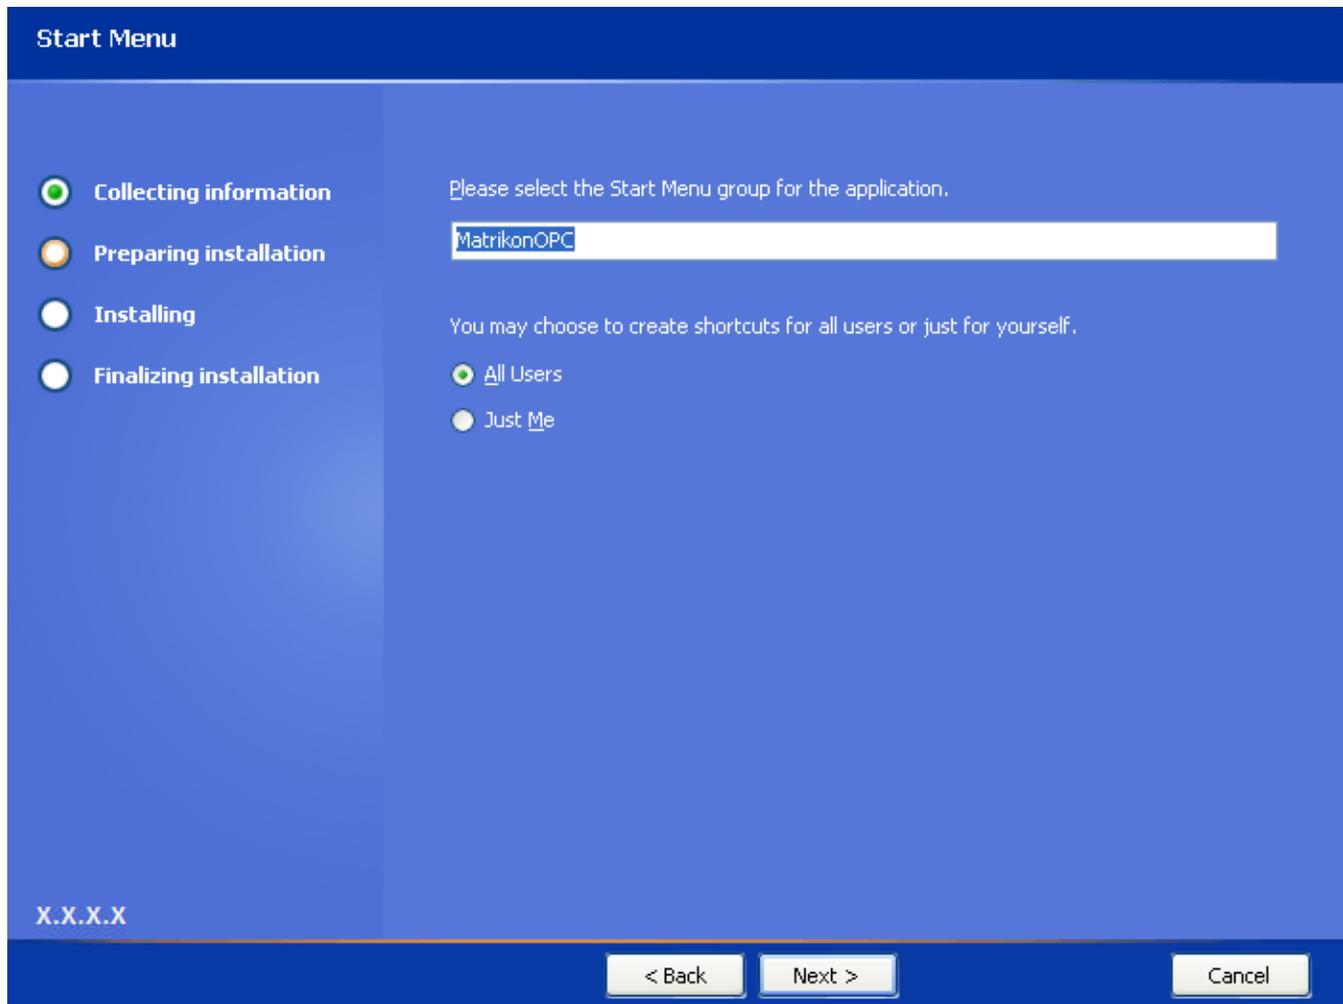

Figure 5 - Start Menu Screen
9. Click on the **Next** button. The **Start Menu** screen (Figure 5) appears.